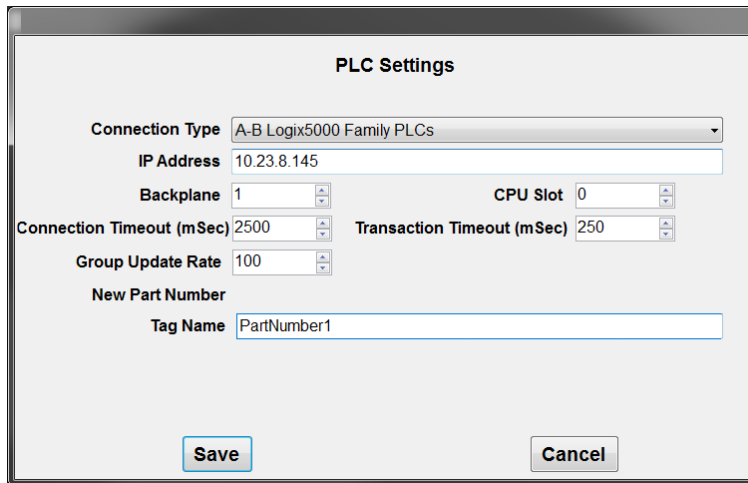

Figure 7.6 PLC Settings
3. Select File > PLC Connect from the main menu.	The PLC Settings window opens (Figure 7.6).
- In the *New Part Number Tag Name* field on the *PLC Settings* window (Figure 7.6 on page 7.11), add the PLC tag that you want to monitor for a part number. This tag must be a string.